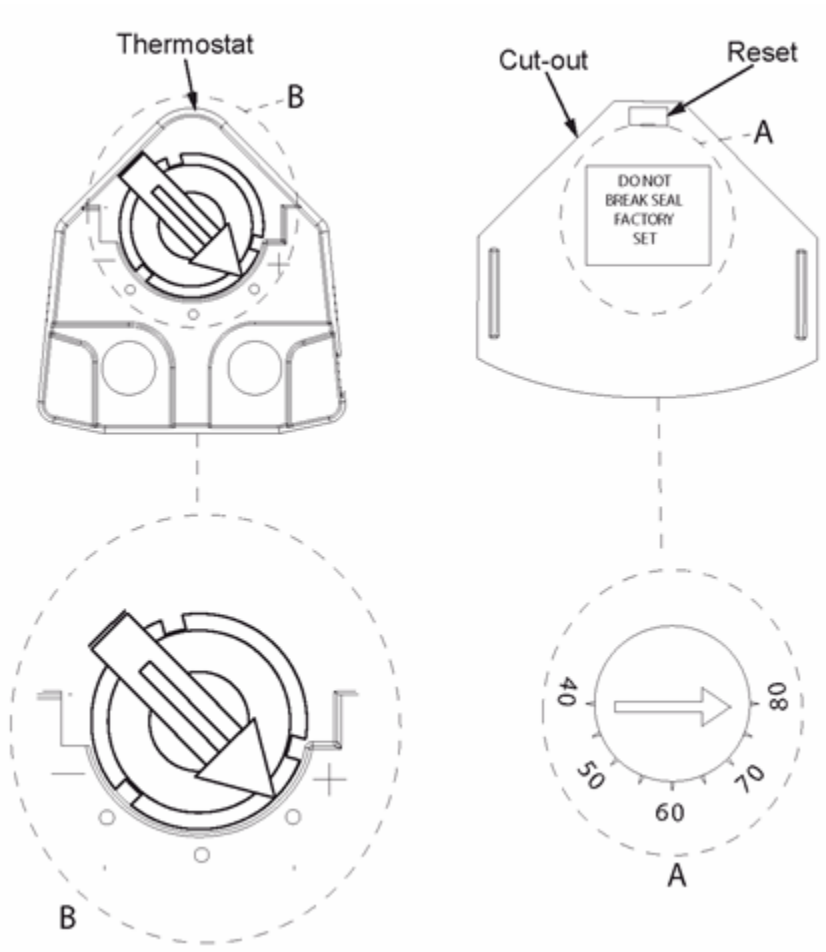

Figure 12: Auxiliary controls
3.58 The discharge pipe (D2) should be at least one pipe size larger than the nominal outlet size of the safety device unless its total equivalent hydraulic resistance exceeds that of a straight pipe 9m long, i.e. for discharge pipes between 9m and 18m the equivalent resistance length should be at least two sizes larger than the nominal outlet size of the safety device; between 18 and 27m at least 3 sizes larger, and so on; bends must be taken into account in calculating the flow resistance. See Fig 12, Table 8 and the worked example.